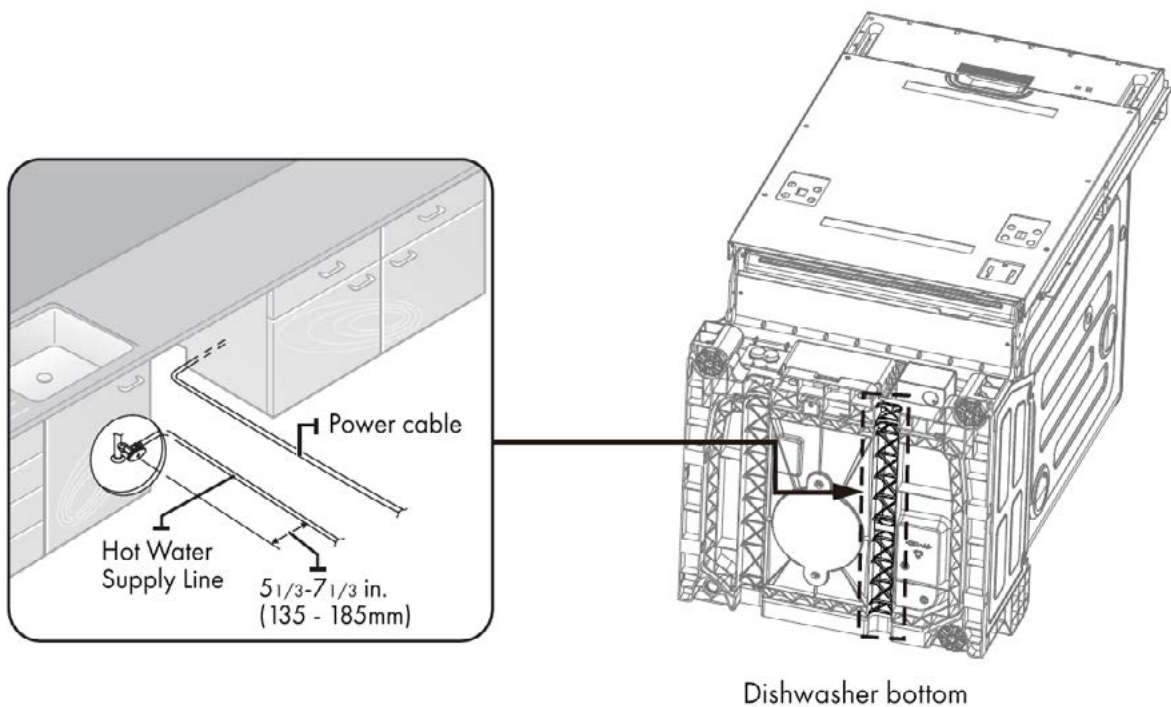

Figure 3
- The power cable and water line run through channels under the dishwasher (see Figure 3) to connections in the front.